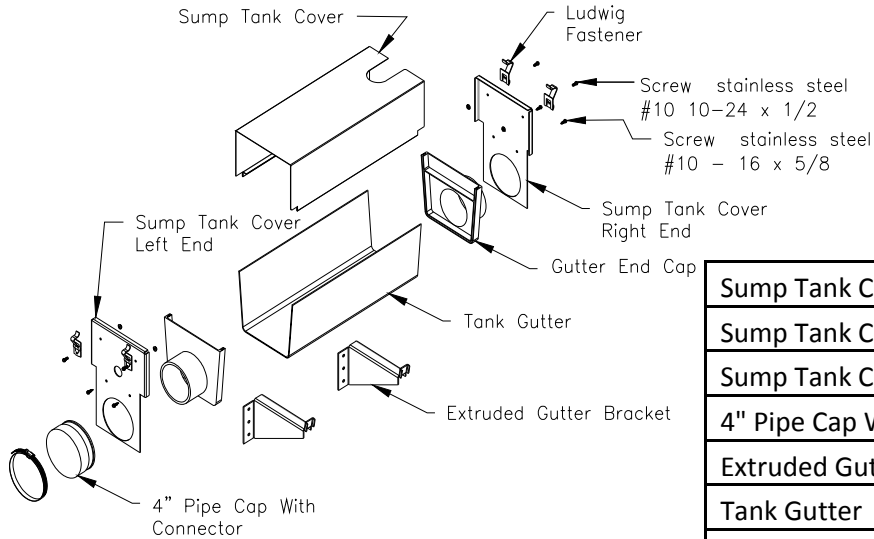

Figure 25
1. Please verify the parts in the In-Line tank kit are as shown in Figure 25 and Table 1.